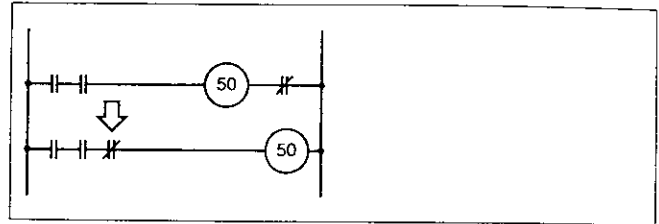

Figure 14.4
- d. It is not permitted to append a further logical operation after an output assignment (figure 14.4 upper part).
Ensure that the element to be processed was programmed before the output assignment (Figure 14.4 lower part).